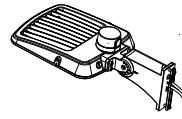

Figure 6
- Step 2: Install the bracket on the fixture, then cover the side lid and tighten it. (Figure 6)